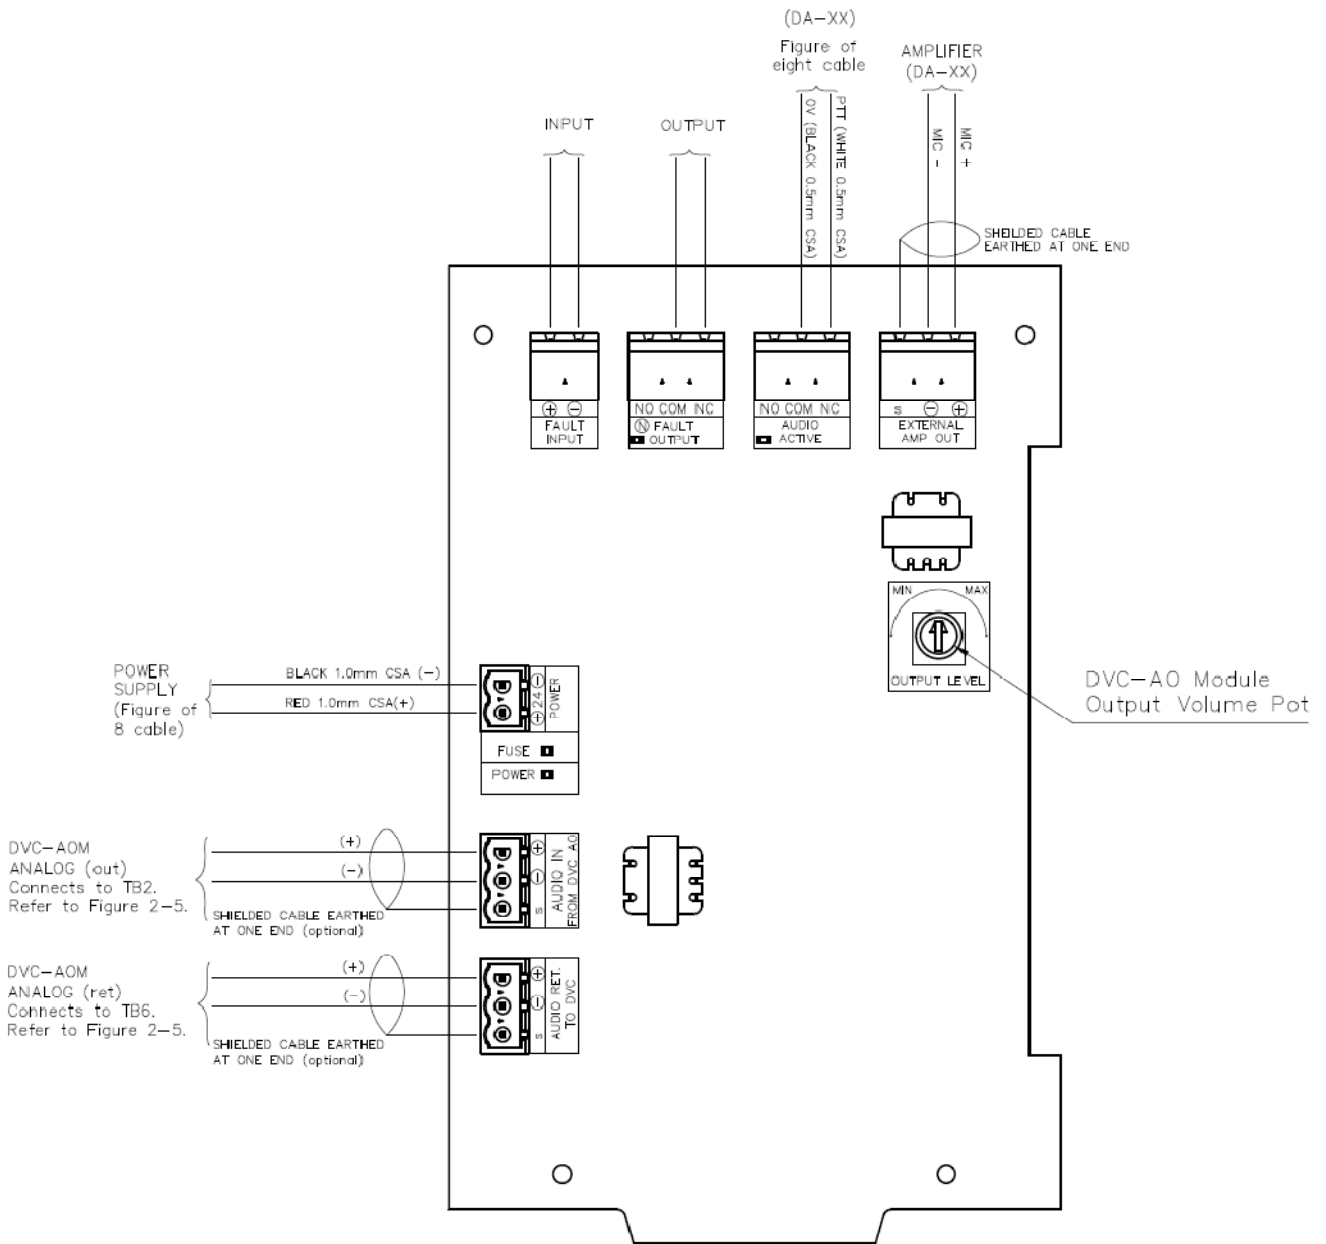
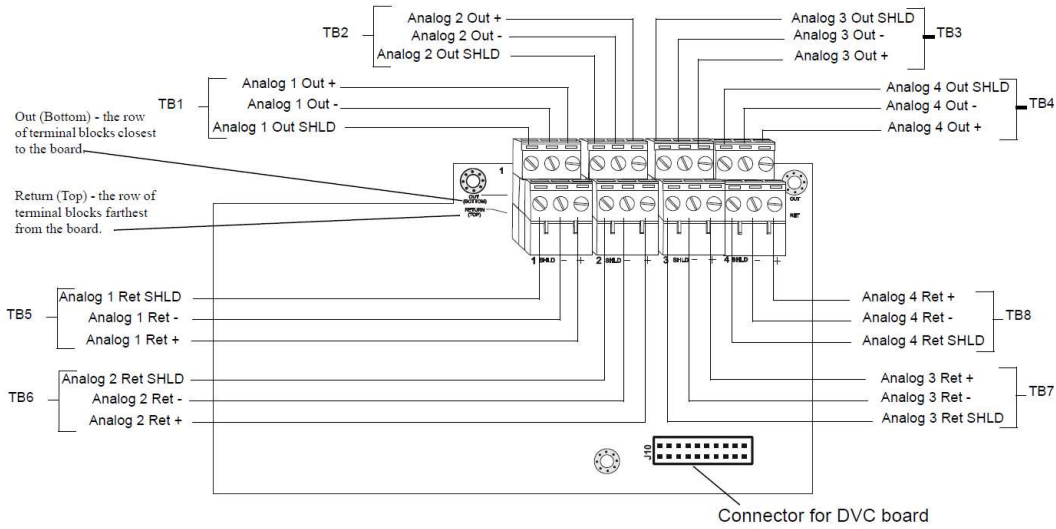
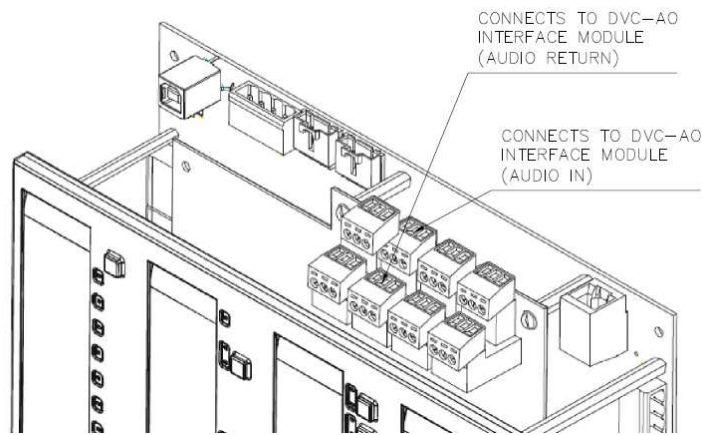

Figure 2-4 - DVC-AO Interface Module Connection Diagram
Figure 2-5 – DVC-AO Analog board to DVC-AO Interface Module Connections
Figure 2-6 - 3D View of DVC-AO Connections
5. Using Figure 2-4, Figure 2-5 and Figure 2-6 as a reference wire the;